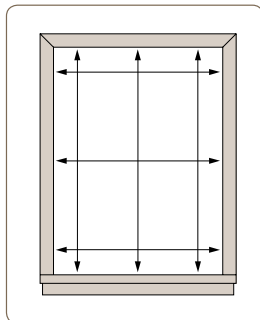

Fig. 2
2. Take three measurements for both height and width (see Fig. 2).